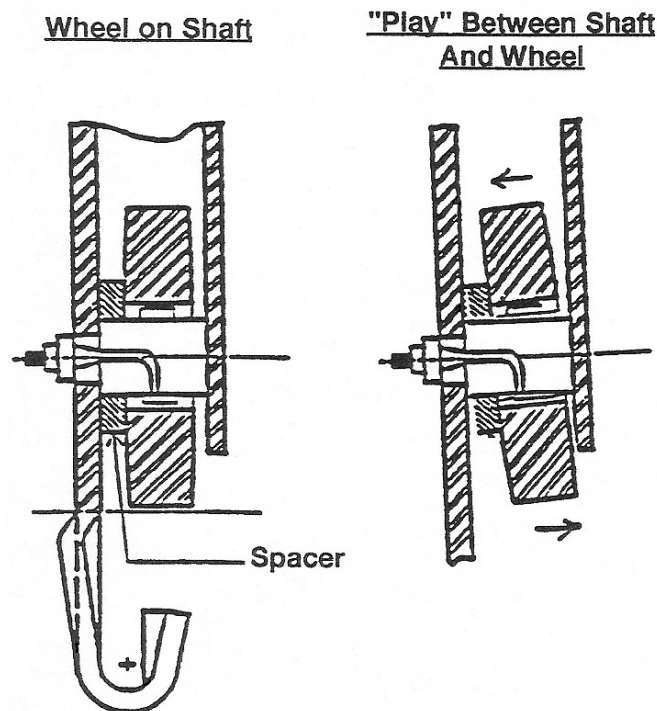

Figure 1.
2. With the roller lifted from the track, check for spin and "play". If "play" is found, replace the roller and/or shaft. (See Figure 1.)
1. Check for "play" between the door roller and the shaft (See Figure 1). If "play" is found, replace the roller on the shaft and check it again. If play is still present, also replace the shaft.